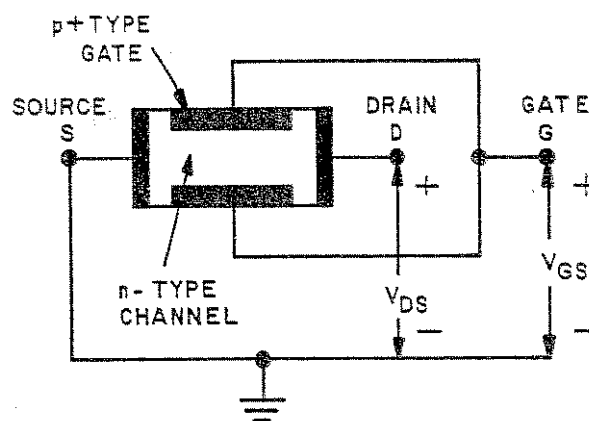
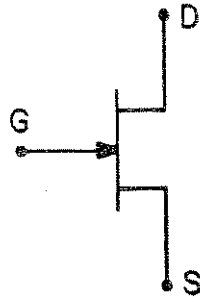

Figure 4-24. The Basic Structure of an N-Channel Junction Field Effect Transistor.
Figure 4-25. Circuit Symbol for an N-Channel JFET
The structure of an N-channel Junction Field Effect Transistor (JFET) is shown in Figure 4-24. Resistive contacts are made to the ends of a semiconductor bar of N-type material (if P-type material is used, the device is referred to as a P-channel JFET). The voltage supply connected to the ends causes current to flow along the length of the bar. This current is made up of majority carriers, which in this case are electrons. The circuit symbol is shown in Figure 4-25. The following FET notation is standard.
**SOURCE:** The source (S) is the terminal at which the majority carriers enter the bar. The current entering the bar at S is designated by  $I_s$ .
**DRAIN:** The drain (D) is the terminal at which the majority carriers leave the bar. The current entering the bar at D is designated by  $I_d$ . If D is more positive than S then the drain to source voltage ( $V_{DS}$ ) is positive.
**GATE:** On both sides of the N-type bar shown in Figure 4-24, heavily doped (P+) sections of acceptor impurities have been created by alloying, by diffusion, or by some other means of creating P-N junctions. These sections of impurities are called the gate (G). The gate to source voltage ( $V_{GS}$ ) is applied to reverse bias the P-N junction. The current entering the bar is designated  $I_g$ .